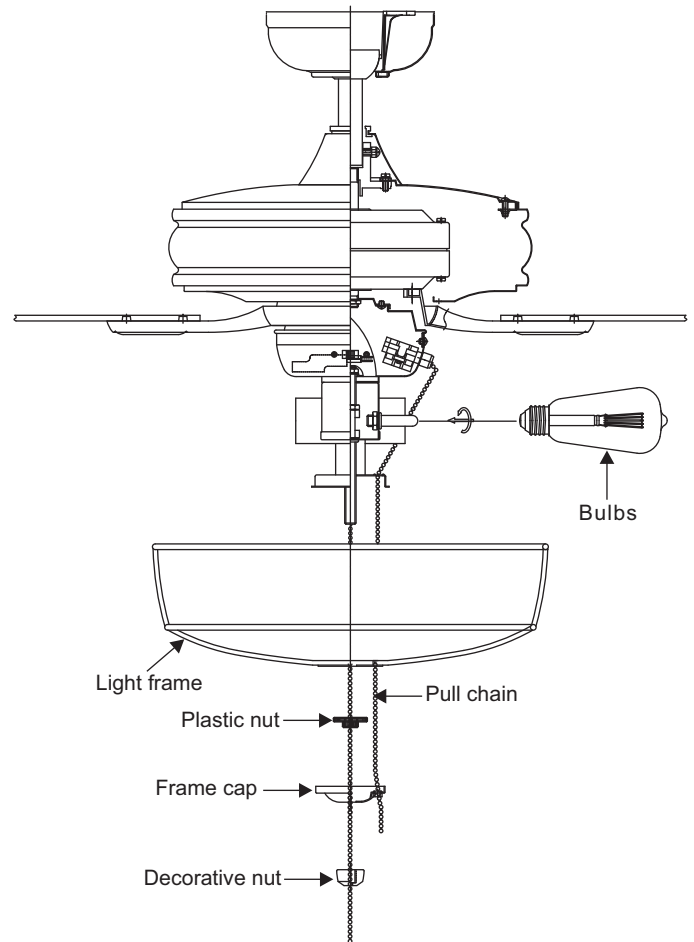

Figure 16
Step 1. Install the three 4W ST45-4 LED bulbs (included). (Fig. 16)
Step 2. Remove the decorative nut, frame cap and plastic nut from the light kit. Place light frame over the light kit stem, secure with the plastic nut (rubber side on the top) frame cap and decorative nut. Do not overtighten. (Fig. 16)
Step 3. Insert the 2 pull chain through the eyelet in the shade and cap. (Fig. 16)